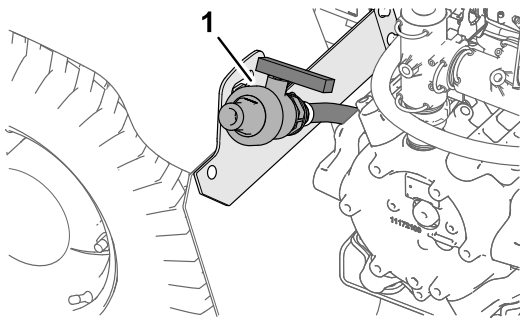

Figure 53
2. Locate the tank-drain valve at the left, rear fender of the machine (Figure 53).